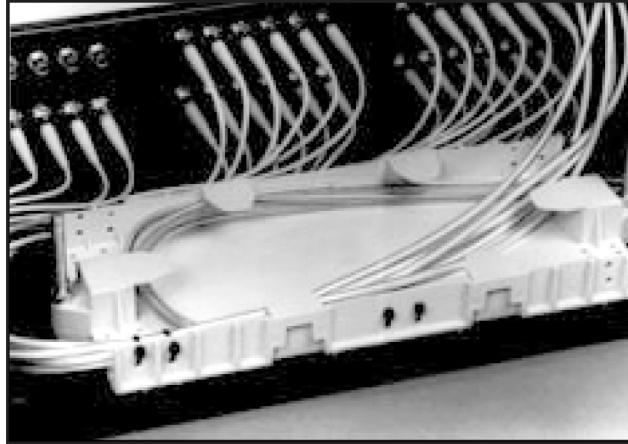

FIGURE 7 - ROUTE FIBERS IN TRANSITON ASSY
- 8.01** Route the fibers of the feeder cable fibers and the Pigtail Tube Assemblies within the Transition Assembly so that they will exit at the front left corner of the Transition Assembly. (Figure 7)
- 8.02** Use two tie wraps to gently secure the Pigtail Assemblies to the back right side of the Transition Assembly. (Figure 7)